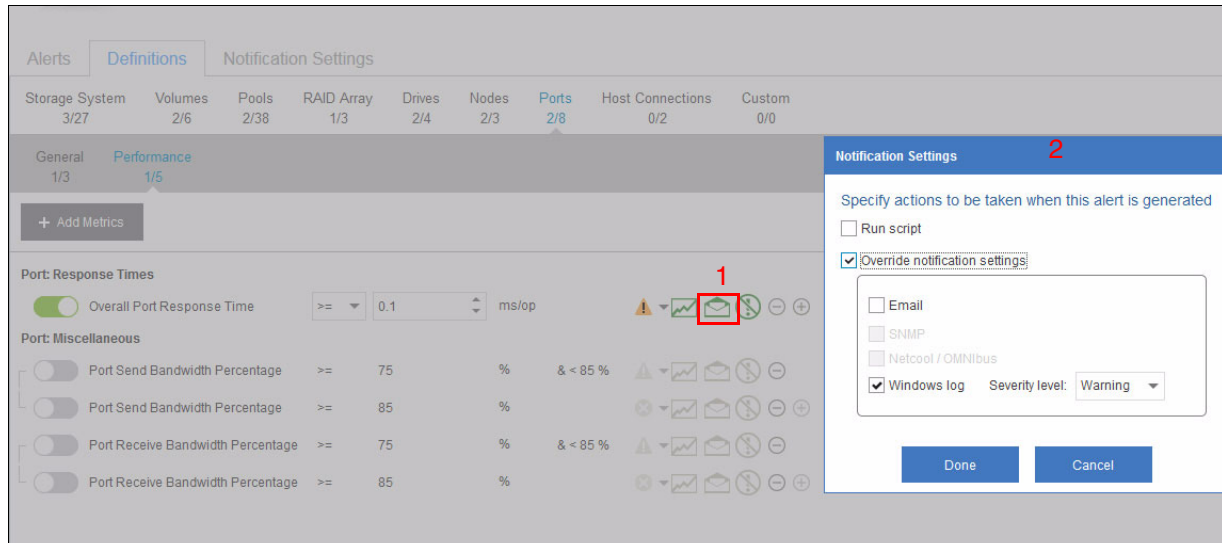
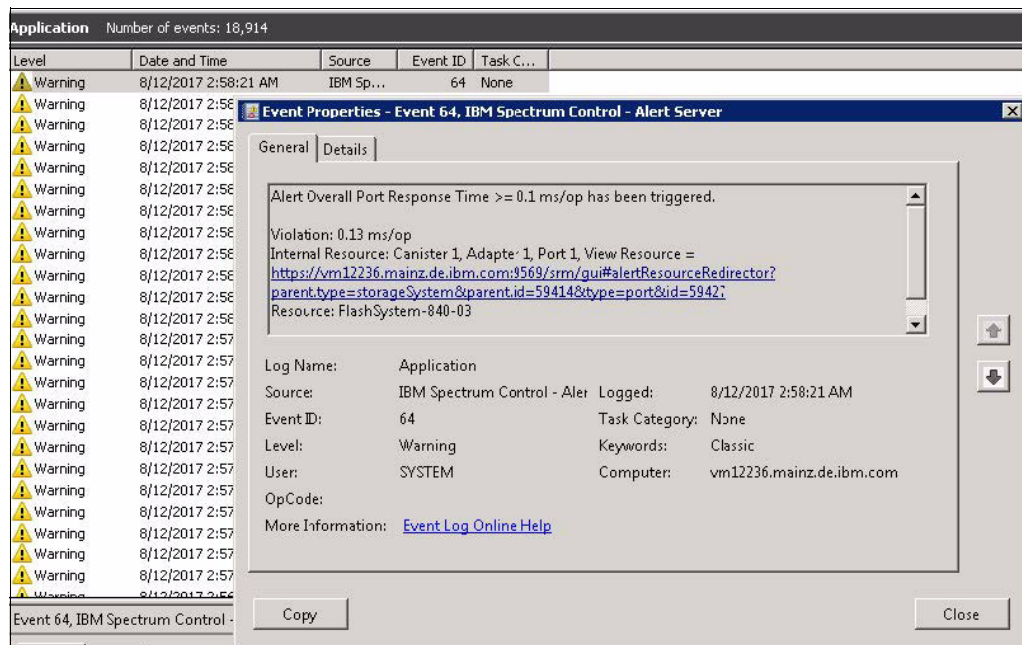

Figure 3-18 Alert configuration
Figure 3-19 Alert notification in Windows log
For each of the above specified levels, it is possible to define the **Notification** action (1), which can be any of the following actions, as shown in Figure 3-18 (2):
If configured as shown in Figure 3-18, alert notifications are written to the Windows event log, as shown in Figure 3-19.